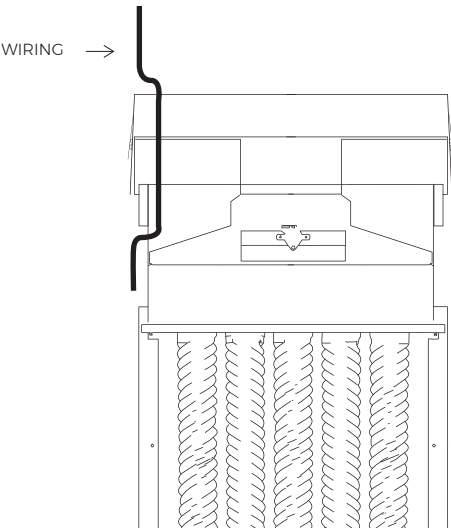

FIGURE 3
- IF YOU ARE RUNNING WIRE BETWEEN THE FURNACE AND STUD, SECURE THE WIRE TO THE LEG AS SHOWN TO PREVENT WIRE PINCHING (**FIGURE 3**). TO PREVENT RISK OF DAMAGING FURNACE, SCREW TAPS ARE PERMISSIBLE ONLY ON THE 6 1/2" OVERHANG PORTION OF THE LEG AS SHOWN. DO NOT DRILL IN THE GRAYED OUT AREA.